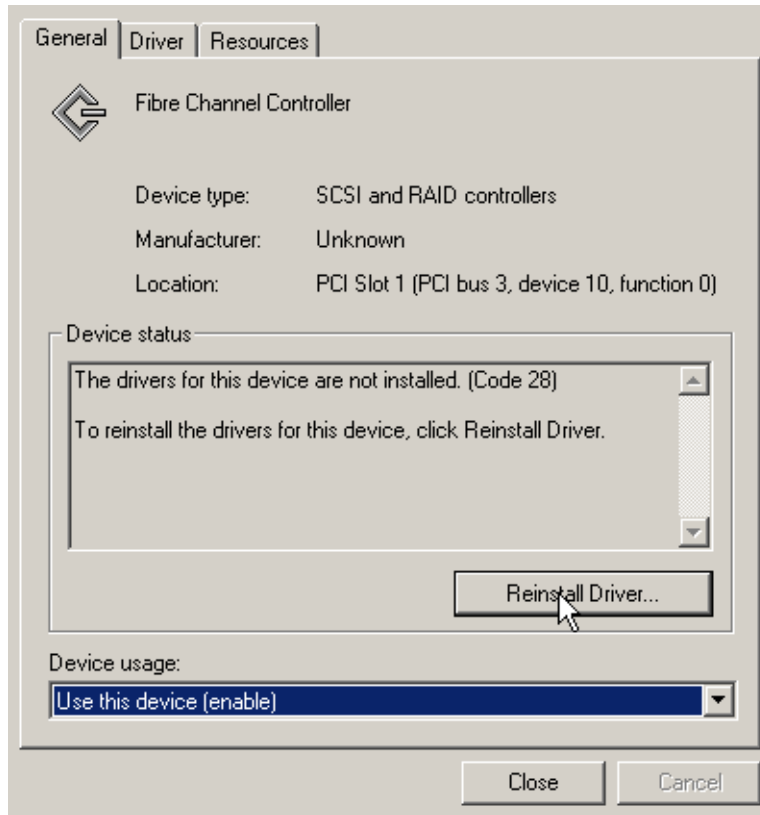

Figure 2 Device Properties Dialog
7. Click the **Reinstall Driver** button, as shown in Figure 2. The Upgrade Device Driver Install Wizard begins.